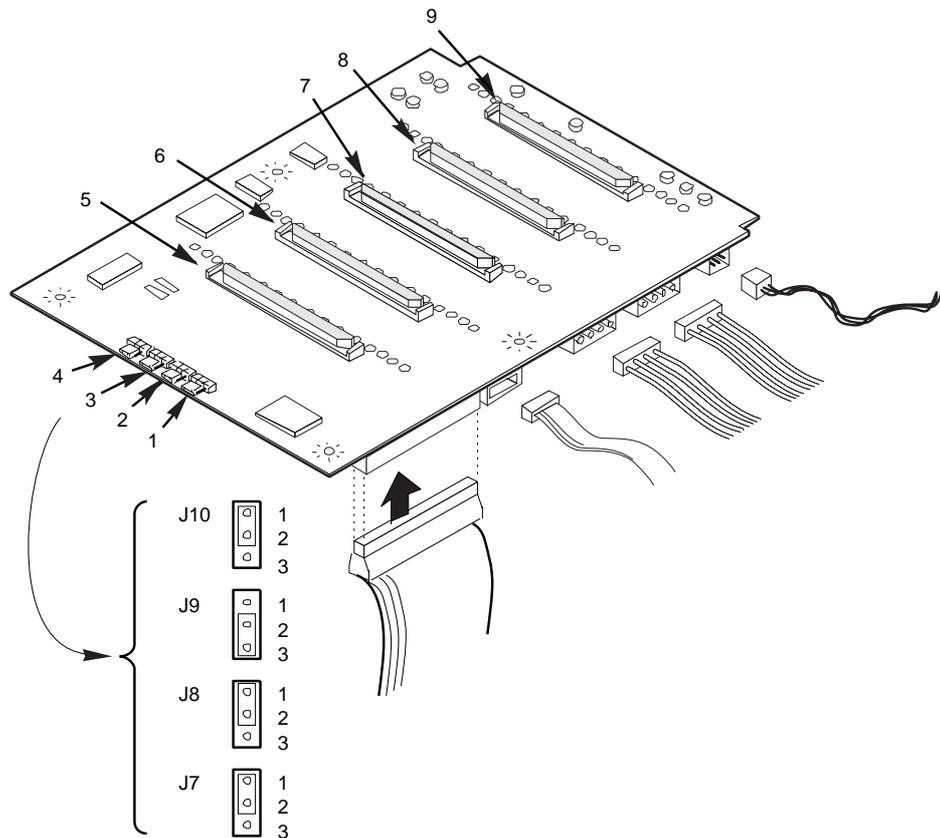

Figure 6-2 SCSI Backplane
See Figure 6-2
2. The jumpers are parallel with the hot-docking backplane surface, shown in Figure 6-2. To remove a jumper, use a jumper removal tool.